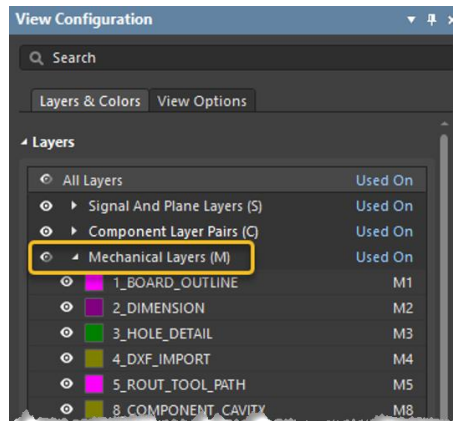

Figure 11. Mechanical layers
50. Scroll down to the Mechanical Layers (M) section, see Figure 11.